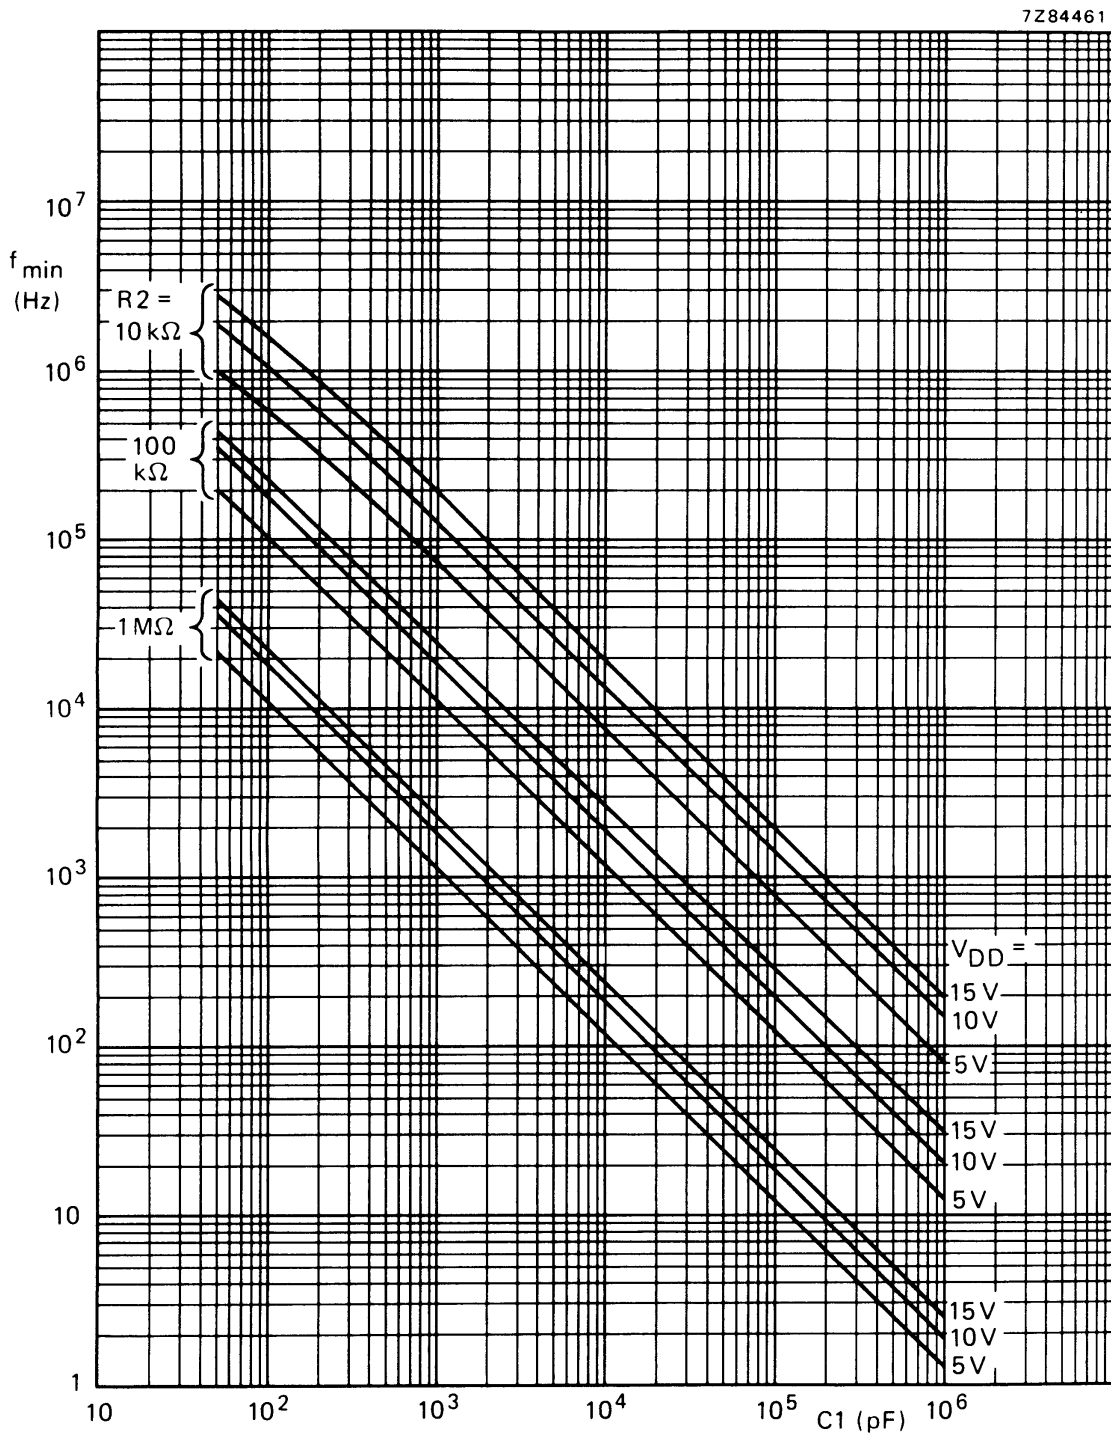
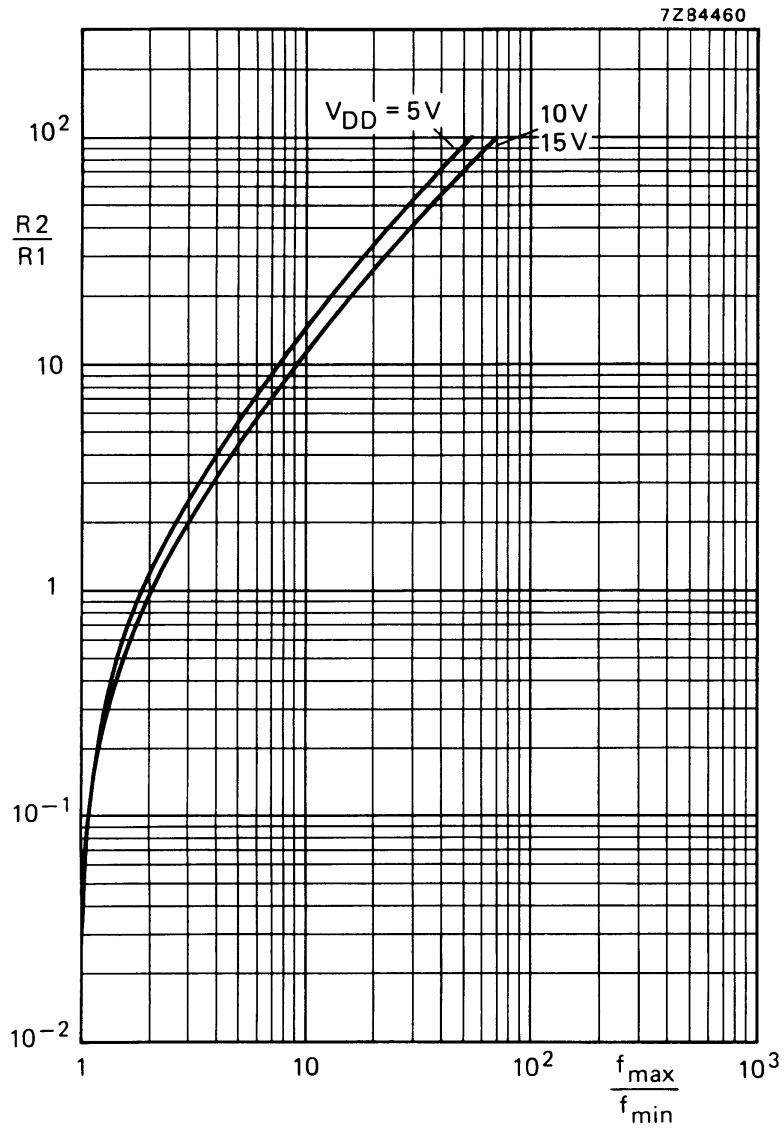

Fig.8 Typical frequency offset as a function of capacitor $C1$; $T_{amb} = 25\text{ }^\circ\text{C}$; V_{COIN} at V_{SS} ; INH at V_{SS} ; $R1 = \infty$.
Fig.9 Typical ratio of R2/R1 as a function of the ratio f_{max}/f_{min} .
- a) Given f_o and f_L : calculate f_{min} from the equation $f_{min} = f_o - f_L$; use f_{min} with Fig.8 to determine R2 and C1; calculate $\frac{f_{max}}{f_{min}}$ from the equation $\frac{f_{max}}{f_{min}} = \frac{f_o + f_L}{f_o - f_L}$; use $\frac{f_{max}}{f_{min}}$ with Fig. 9 to determine the ratio R2/R1 to obtain R1.
- b) Given f_{min} and f_{max} : use f_{min} with Fig.8 to determine R2 and C1; calculate $\frac{f_{max}}{f_{min}}$; use $\frac{f_{max}}{f_{min}}$ with Fig.9 to determine R2/R1 to obtain R1.